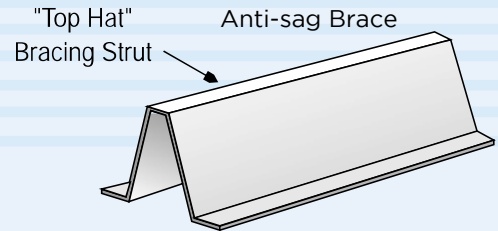

FIG 41.
2. Usually, reinforcing struts, known as Top Hat Bracing Struts (Fig.41), are required to strengthen the door sections, and...